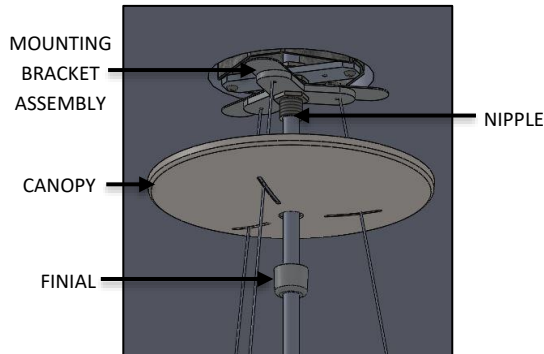

FIG. 23 – FINIAL INSTALLATION
10. Raise CANOPY and secure to ceiling by threading the FINIAL to the NIPPLE (available in MOUNTING BRACKET ASSEMBLY) as shown below in FIG. 23.